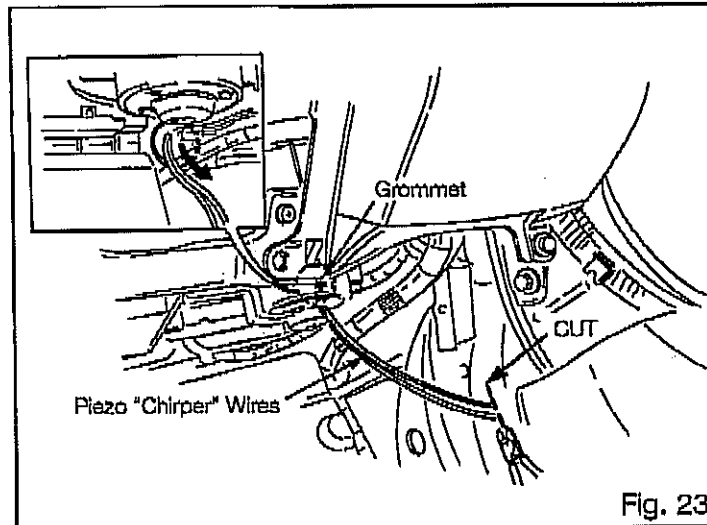

Fig. 23
- (6) Inside the passenger compartment, route the Piezo "Chirper" wires to the floor, and cut off the excess as shown. Fig 23